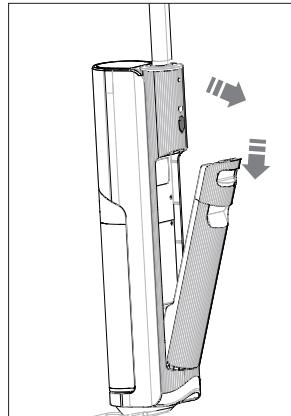

Fig. 5 – Removing the wa-
- ▶ Hold the recessed grip of the fresh water tank (14) and press the fresh water tank release button (15) downwards.
- ▶ Pull the fresh water tank out of the appliance body (**see Fig. 5**).